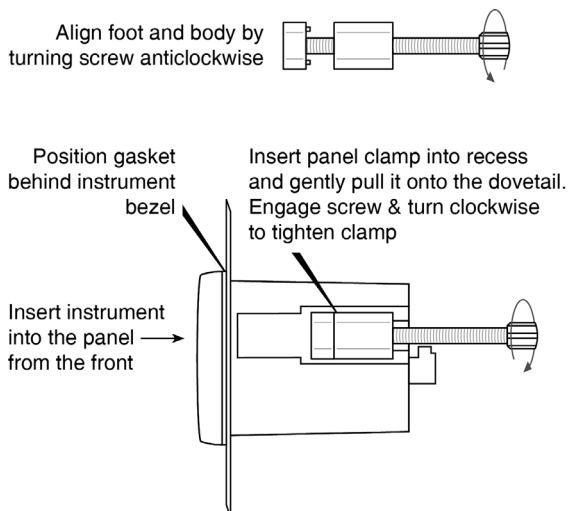

Fig 7 Fitting panel mounting clamps
- Place a clamp in the recess on each side of the Counter, pulling gently to slide it onto the dovetail as shown in Fig 7. Push the knurled screw slightly forward to engage the thread and tighten by turning clockwise until it is just finger tight. When all clamps are fitted ensure that the gasket behind the front panel bezel is correctly positioned before fully tightening the clamps to secure the instrument. The maximum recommended clamp tightening torque is 22cNm (1.95 lbf in) which is approximately equivalent to finger-tight plus one half turn. **Do not over tighten.**